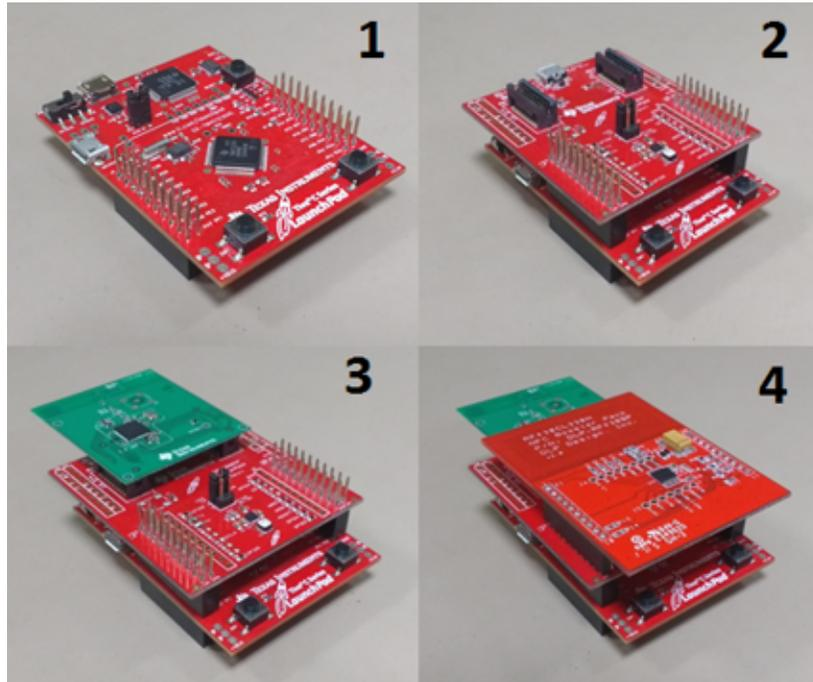

Figure 28. Connecting All Hardware Components of the BLE Node
2. Connect the EM Adapter BoosterPack to the TM4C123x LP as shown in Figure 28.
4. Connect the RF430C330H NFC Tag to the EM Adapter BoosterPack as shown in Figure 28 (recommended).